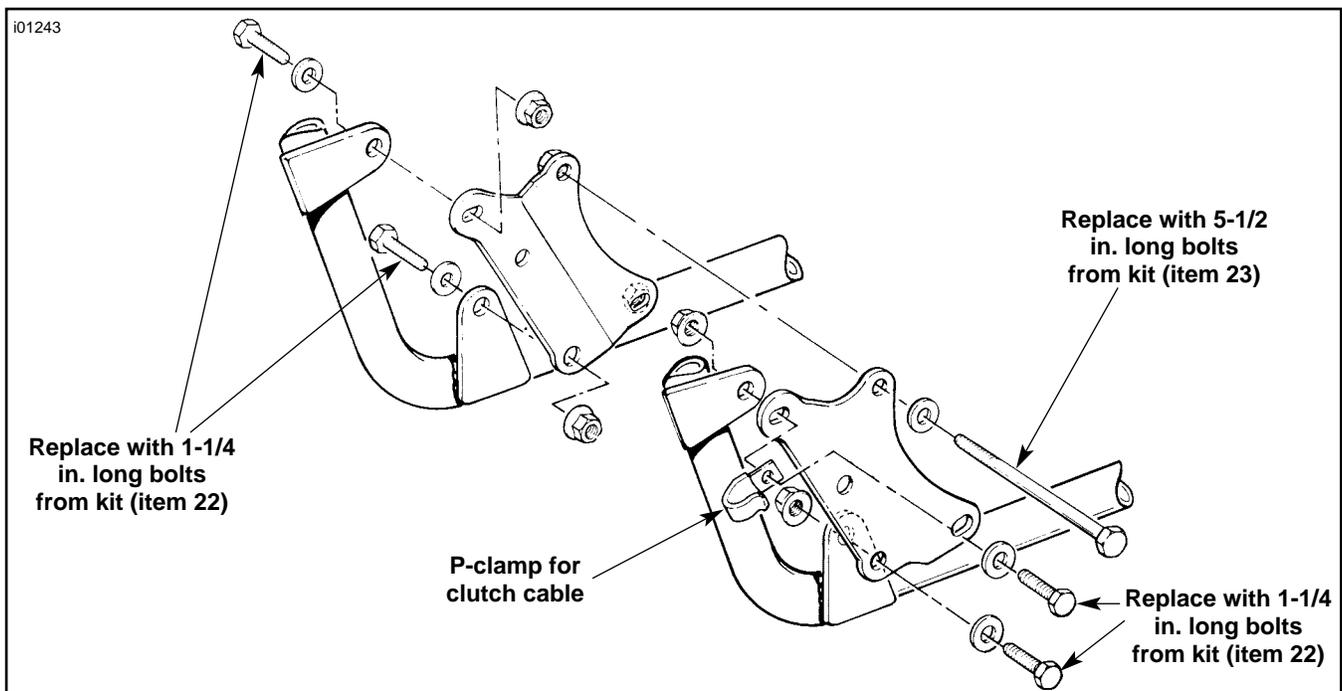

Figure 1. Stock Front Motor Mounts
1. Remove stock footrest assembly and save footrest for reinstallation. Replace existing sockethead capscrews that attached footrest bracket to primary cover with washers (5) and shorter screws (21) from kit.
3. See Figure 1. Remove left side stock motor mount and save nuts, washers, and P-clamp for clutch cable. The bolts will be replaced.
4. Put Loctite 243 on threads of left side foot control support (15) and thread support into left side machine motor mount (11). Install C-clip (8) onto support where it exits the backside of machine motor mount to hold support in place.
6. Install shift lever (14) from kit using stock fastener.
- See Figure 1. Remove right side stock motor mount and save nuts and washers. The bolts will be replaced.
- Put Loctite 243 on threads of right side foot control support (16) and thread support into right side machine motor mount (10). Install C-clip (8) onto support where it exits the backside of machine motor mount to hold support in place.
- Install brake pedal assembly (18) into master cylinder by turning push rod at flats to thread on rod end. Adjust rod length with jam nut (6) until brake pedal has reached a 45 degree angle.